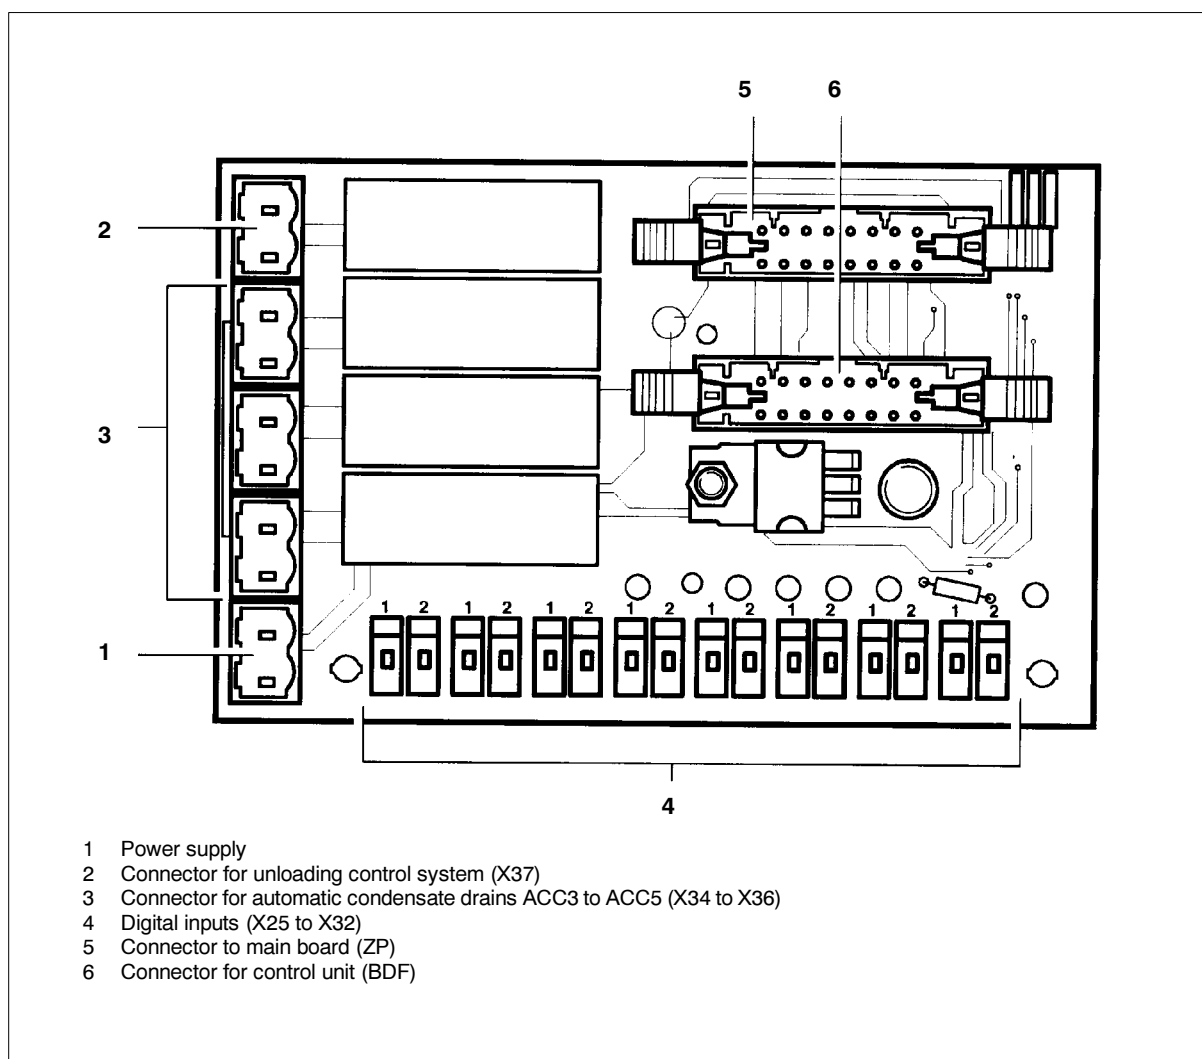

Fig. 29 Aux board
- 8 additional inputs X25 to X32 (4, Fig. 29).